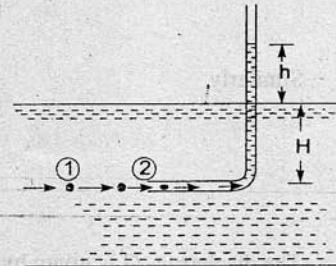

Fig. 6.13 Pitot-tube.
6.7.3 Pitot-tube. It is a device used for measuring the velocity of flow at any point in a pipe or a channel. It is based on the principle that if the velocity of flow at a point becomes zero, the pressure there is increased due to the conversion of the kinetic energy into pressure energy. In its simplest form, the pitot-tube consists of a glass tube, bent at right angles as shown in Fig. 6.13.
The lower end, which is bent through 90° is directed in the upstream direction as shown in Fig. 6.13. The liquid rises up in the tube due to the conversion of kinetic energy into pressure energy.